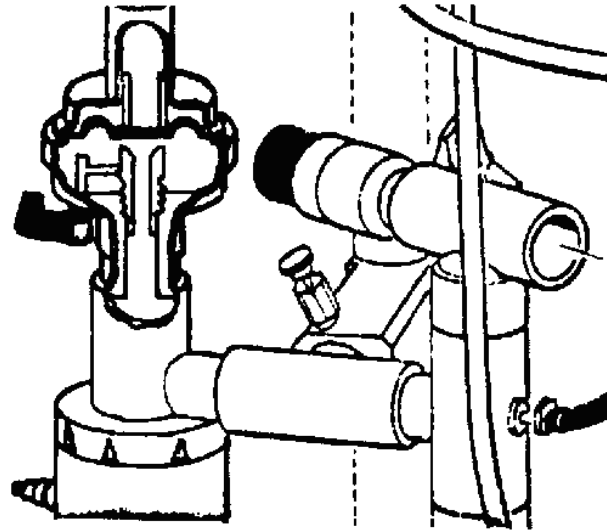

Figure 1-9. Outflow valve.
(6) Outflow valve. The outflow valve (figure 1-9) helps regulate pressure in the breathing circuit. Exhaled gases enter the outflow valve through an unrestricted orifice controlled by a red lever which may be moved through a 180-degree arc, having a stop on either side.